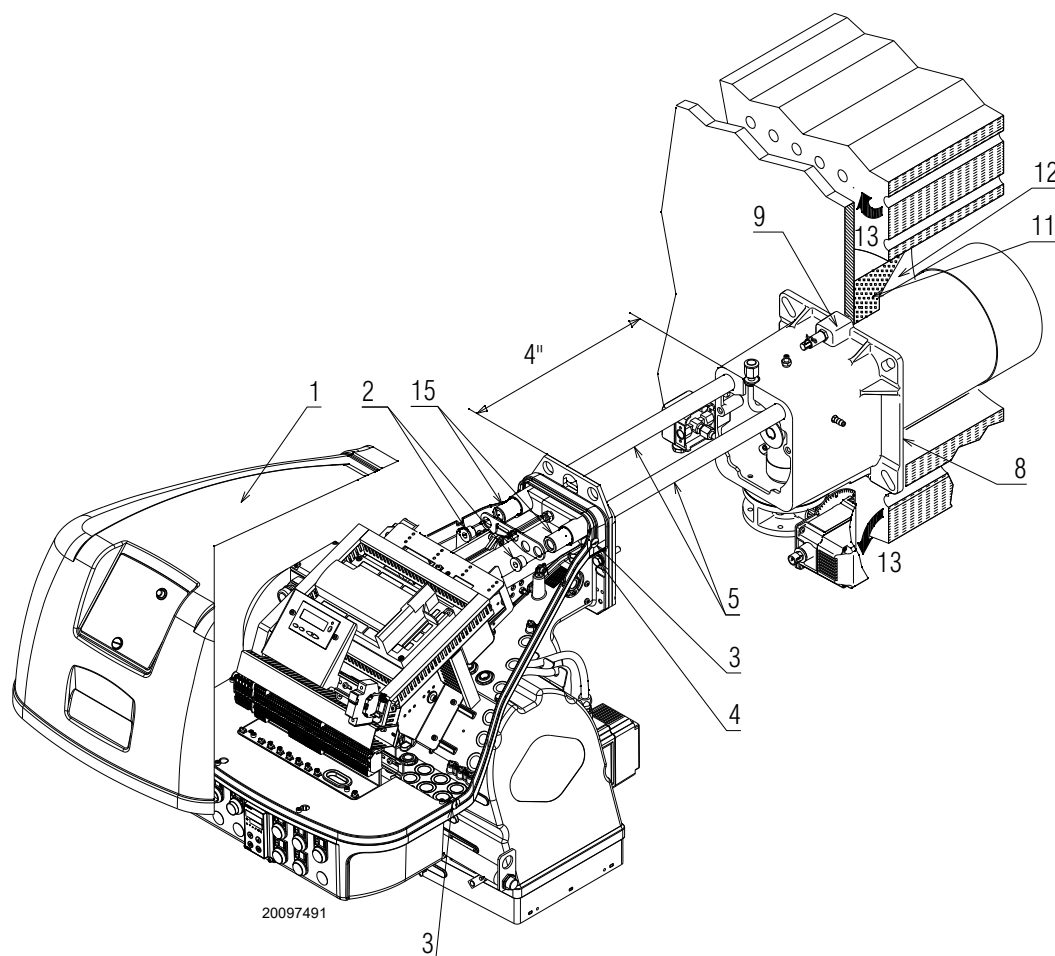

Fig. 11
- For boilers with front flue passes 13)(Fig. 11) or flame inversion chambers, a protection in refractory material 11) must be inserted between the boiler refractory 12) and the blast tube 10). This protection must not compromise the extraction of the blast tube.
- For boilers with a water-cooled frontal, a refractory lining is not necessary 11)-12)(Fig. 11) unless expressly requested by the boiler manufacturer.
- Secure the burner to the boiler, fixing the flange 9)(Fig. 11) to the boiler plate and interposing the insulating gasket 8).
- loosen the 4 screws 3)(Fig. 11 on page 17) and remove the cover 1);